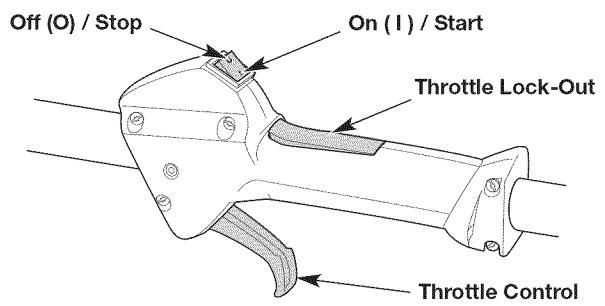
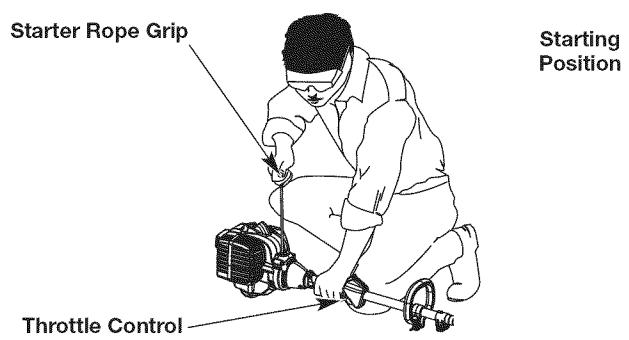
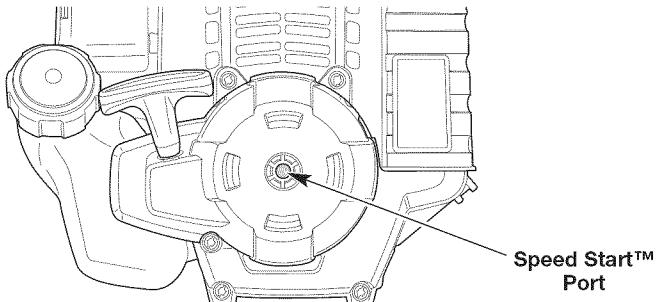

Fig. 9
Fig. 12
Fig. 13
WARNING: Avoid accidentally starting the unit. To avoid serious injury, the operator and the unit must be in a stable position when pulling the starter rope (Fig. 12).
- NOTE:** There is no need to turn the unit on. The On/Off switch is in the ON (I) position at all times (Fig. 9).
5. Crouch in the starting position (Fig. 12).
6. **DO NOT** squeeze the throttle control (Fig. 9). Pull the starter rope with a controlled and steady motion until the unit starts (Fig. 12).
2. Press and hold the On/Off switch in the OFF (O) position until the engine comes to a complete stop (Fig. 9).
6. **DO NOT** squeeze the throttle control (Fig. 9). Insert the Speed Start™ accessory into the Speed Start™ port (Fig. 13). Refer to the *Operation* section of the Speed Start™ accessory operator's manual.